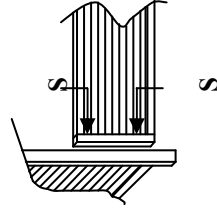

Fig 1
2. Screw together using screws **S** as shown in Fig 1.